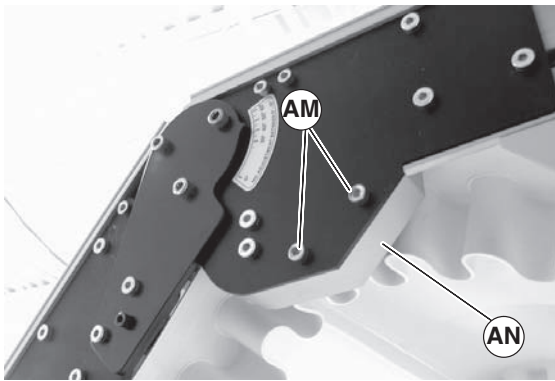

Figure 25
- If equipped, remove screws (Figure 25, item AM) on both sides of knuckle and remove guard (AN).